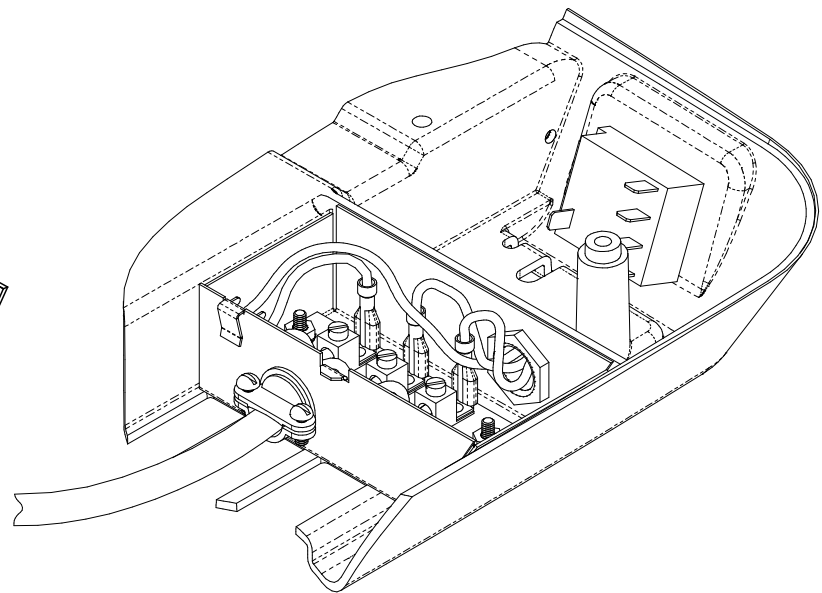

FIGURE 8
- F. Insert the supply wiring through the cable clamp and into the field wiring box so that 4 – 6” of supply conductor is inside the box. Secure the cable clamp over the supply wire sheath so that no movement is possible (See Figure 8).
- G. Connect the supply power conductors to the black and white pigtail wires and the supply ground wire to the green pigtail wire found in the field wiring box using the 3 provided wire nuts. **IMPORTANT** – connect the black supply to the black pigtail and the white supply to the white pigtail. Using a U.L. approved electrical tape, secure the wire nuts to wires in a workmanlike manner (See Figure 8).